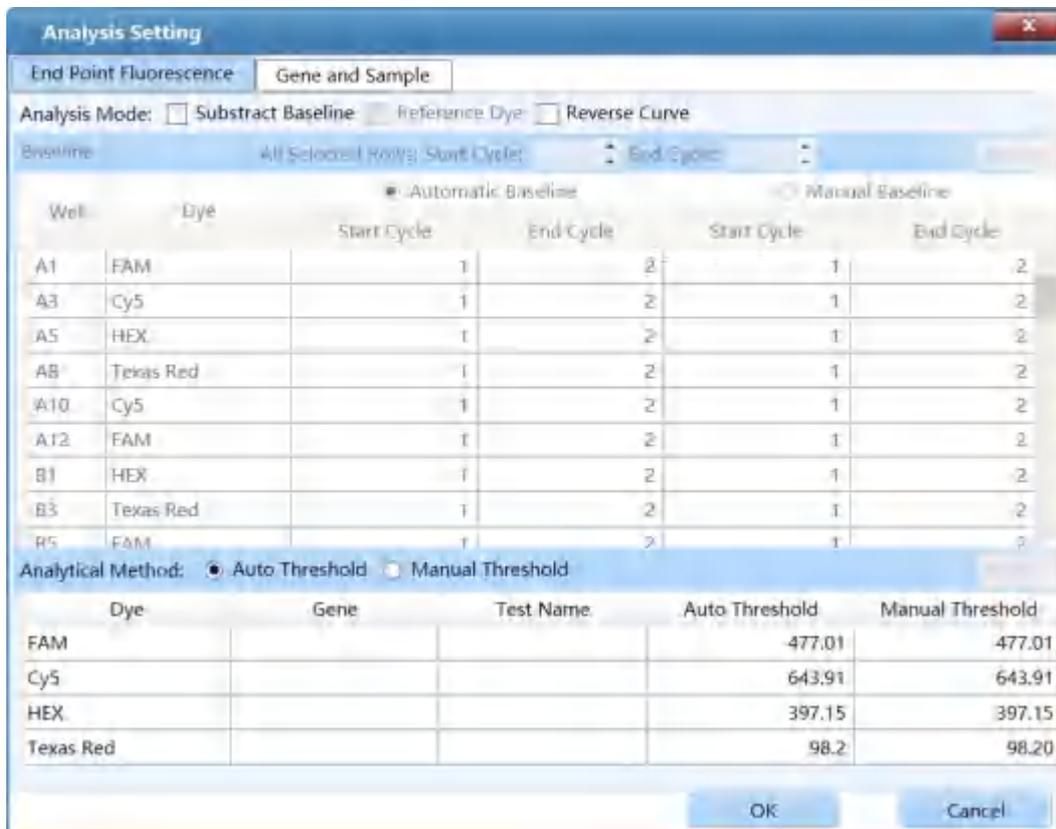

Figure D-18. End Point Fluorescence Analysis Setting interface - End Point Fluorescence tab
I. **End Point Fluorescence** tab: as shown in figure D-18.